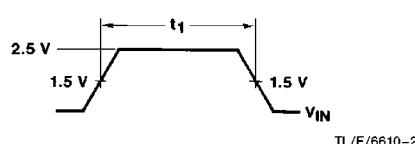

FIGURE 1
- Set-up time (t_1) for input trigger pulse must be $> 40 \text{ ns}$. (See Figure 1).